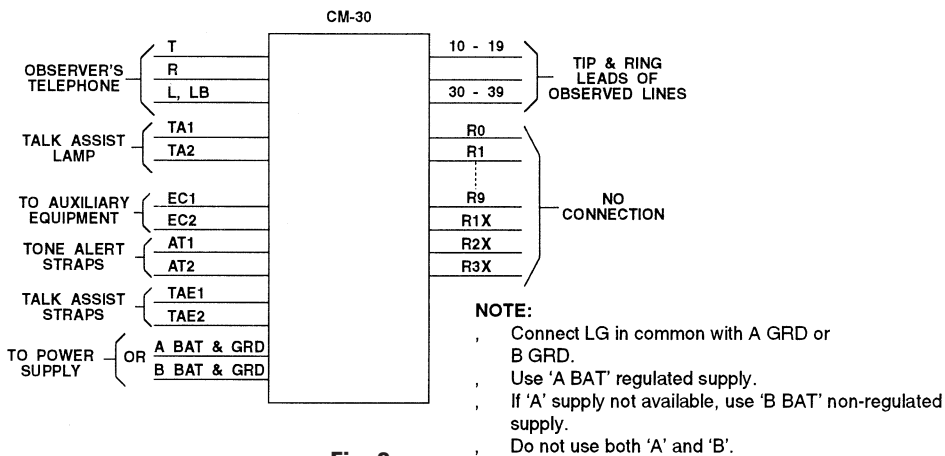

Fig. 2
4.01 Special installation tools are not required. Mount the CM-30 in an apparatus cabinet, relay rack, or on a wall. Connect the two CM-30 plugs to 25-pair connector cables and secure them with the clamps and screws provided. Plug in power supply Dees Model 368 (or tie down as in Figures 2 and 5).
4.02 Cross connect as shown in Figures 2 and 5.